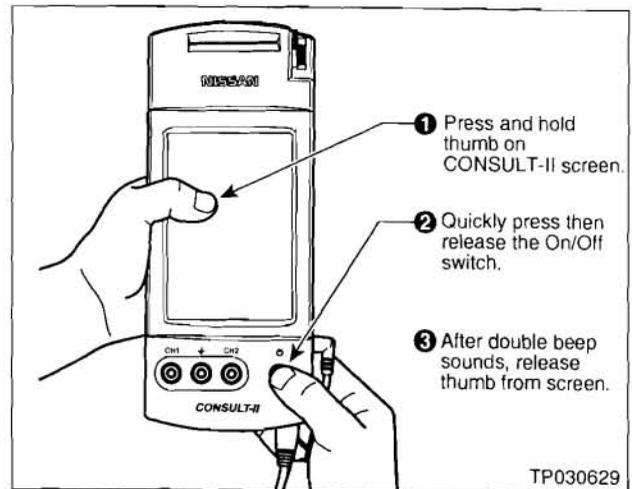

Figure A7
8. Turn ON CONSULT-II as shown in Figure A7.
NOTE: If you accidentally choose a menu option other than "Transfer Files via LAN"; turn CONSULT-II OFF, and then back ON as shown in Figure A7 above.